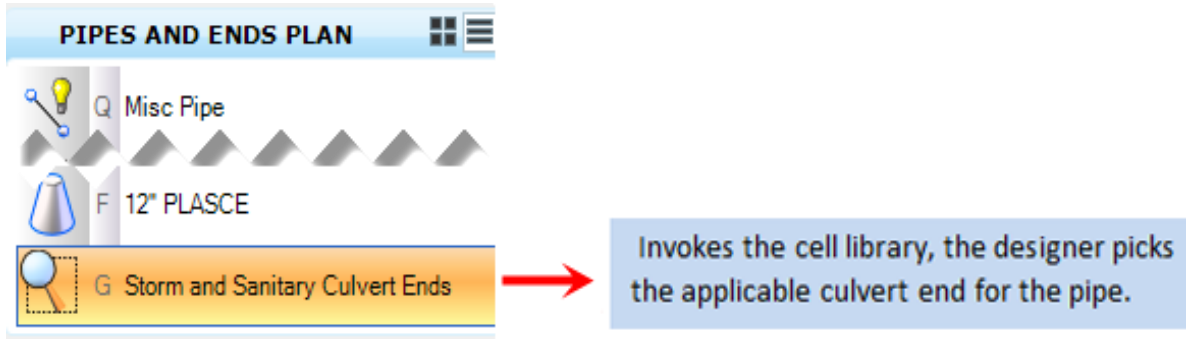

Figure 27 - Storm & Sanitary CE Task
**Storm and Sanitary** places most drainage structures and pipes with the appropriate cells, line styles and levels; the exceptions are culvert ends. The designer has to place culvert ends into the 3D drainage design model using the Storm & Sanitary Culvert Ends task, see Figure 27.